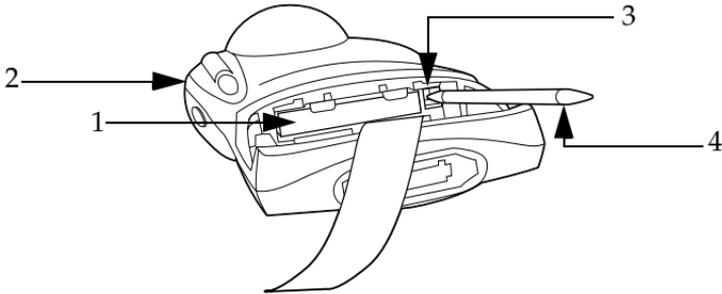

Figure 10: Flash Card Compartment
2. Use the stylus to press the flash card release button inside the flash card compartment (see Figure 10, *Flash Card Compartment*, on Page 22).